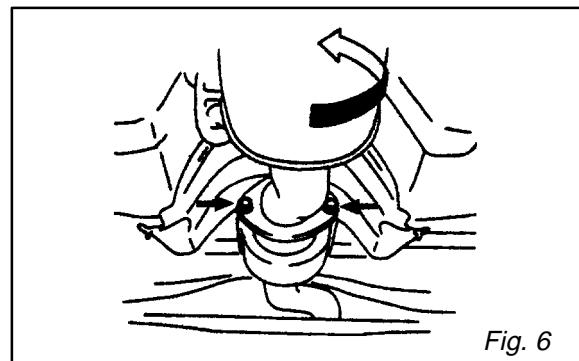

Fig. 6
3. Loosen nuts attaching center exhaust pipe to front exhaust pipe (indicated by red arrows in figure 6). Reposition center pipe by turning counterclockwise as shown. While holding pipe in position, retighten nuts.